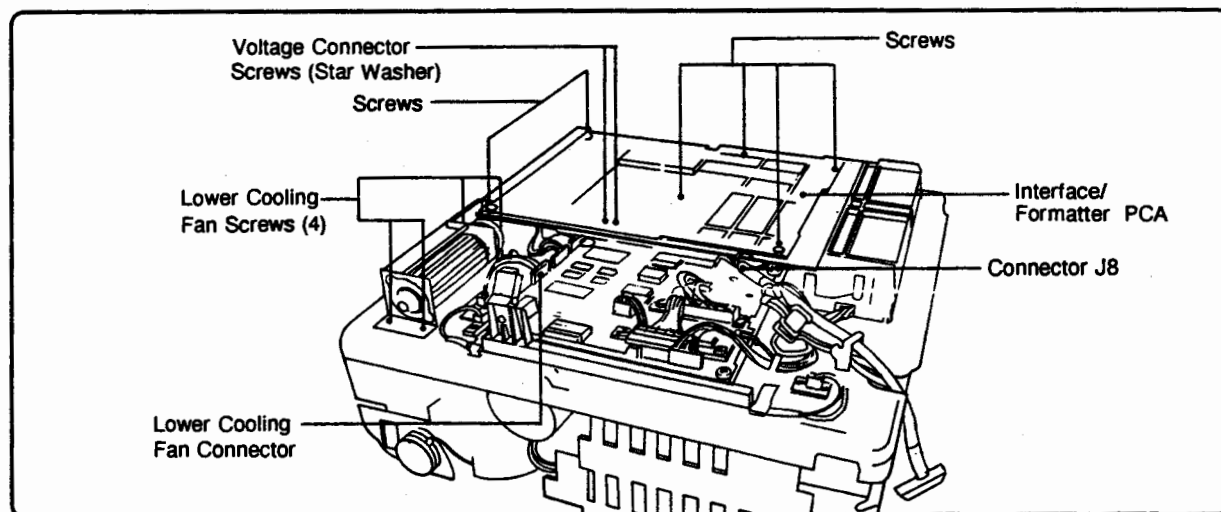

Figure 6-50. Interface/Formatter PCA
2. Detach the connector from the DC Controller PCA (see Figure 6-50), remove the screws (4) securing the fan, and lift the fan out of the printer.
3. Remove the Voltage Connector star washer screws (2) (see Figure 6-50) and the screws (4) securing the PCA (2 at the front, 1 at the long edge, and 1 in the center of the board).
4. Remove the screws (2) connecting the I/O Connector Plate to the printer's base plate.